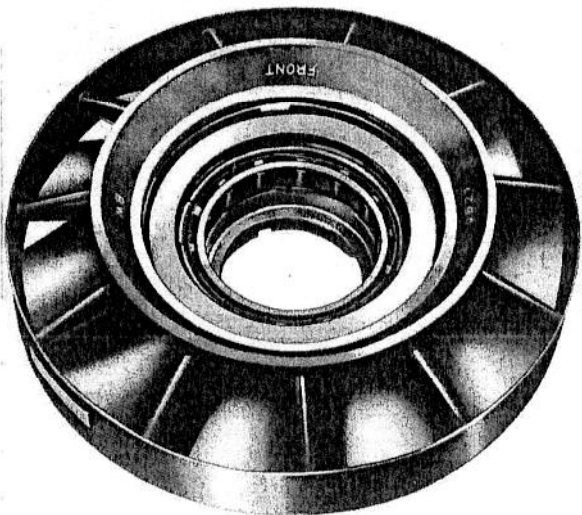

FIG. 10
5. (Fig. 10) Slide the outer race and clutch ring into the stator body, with the broader flange of the clutch uppermost.